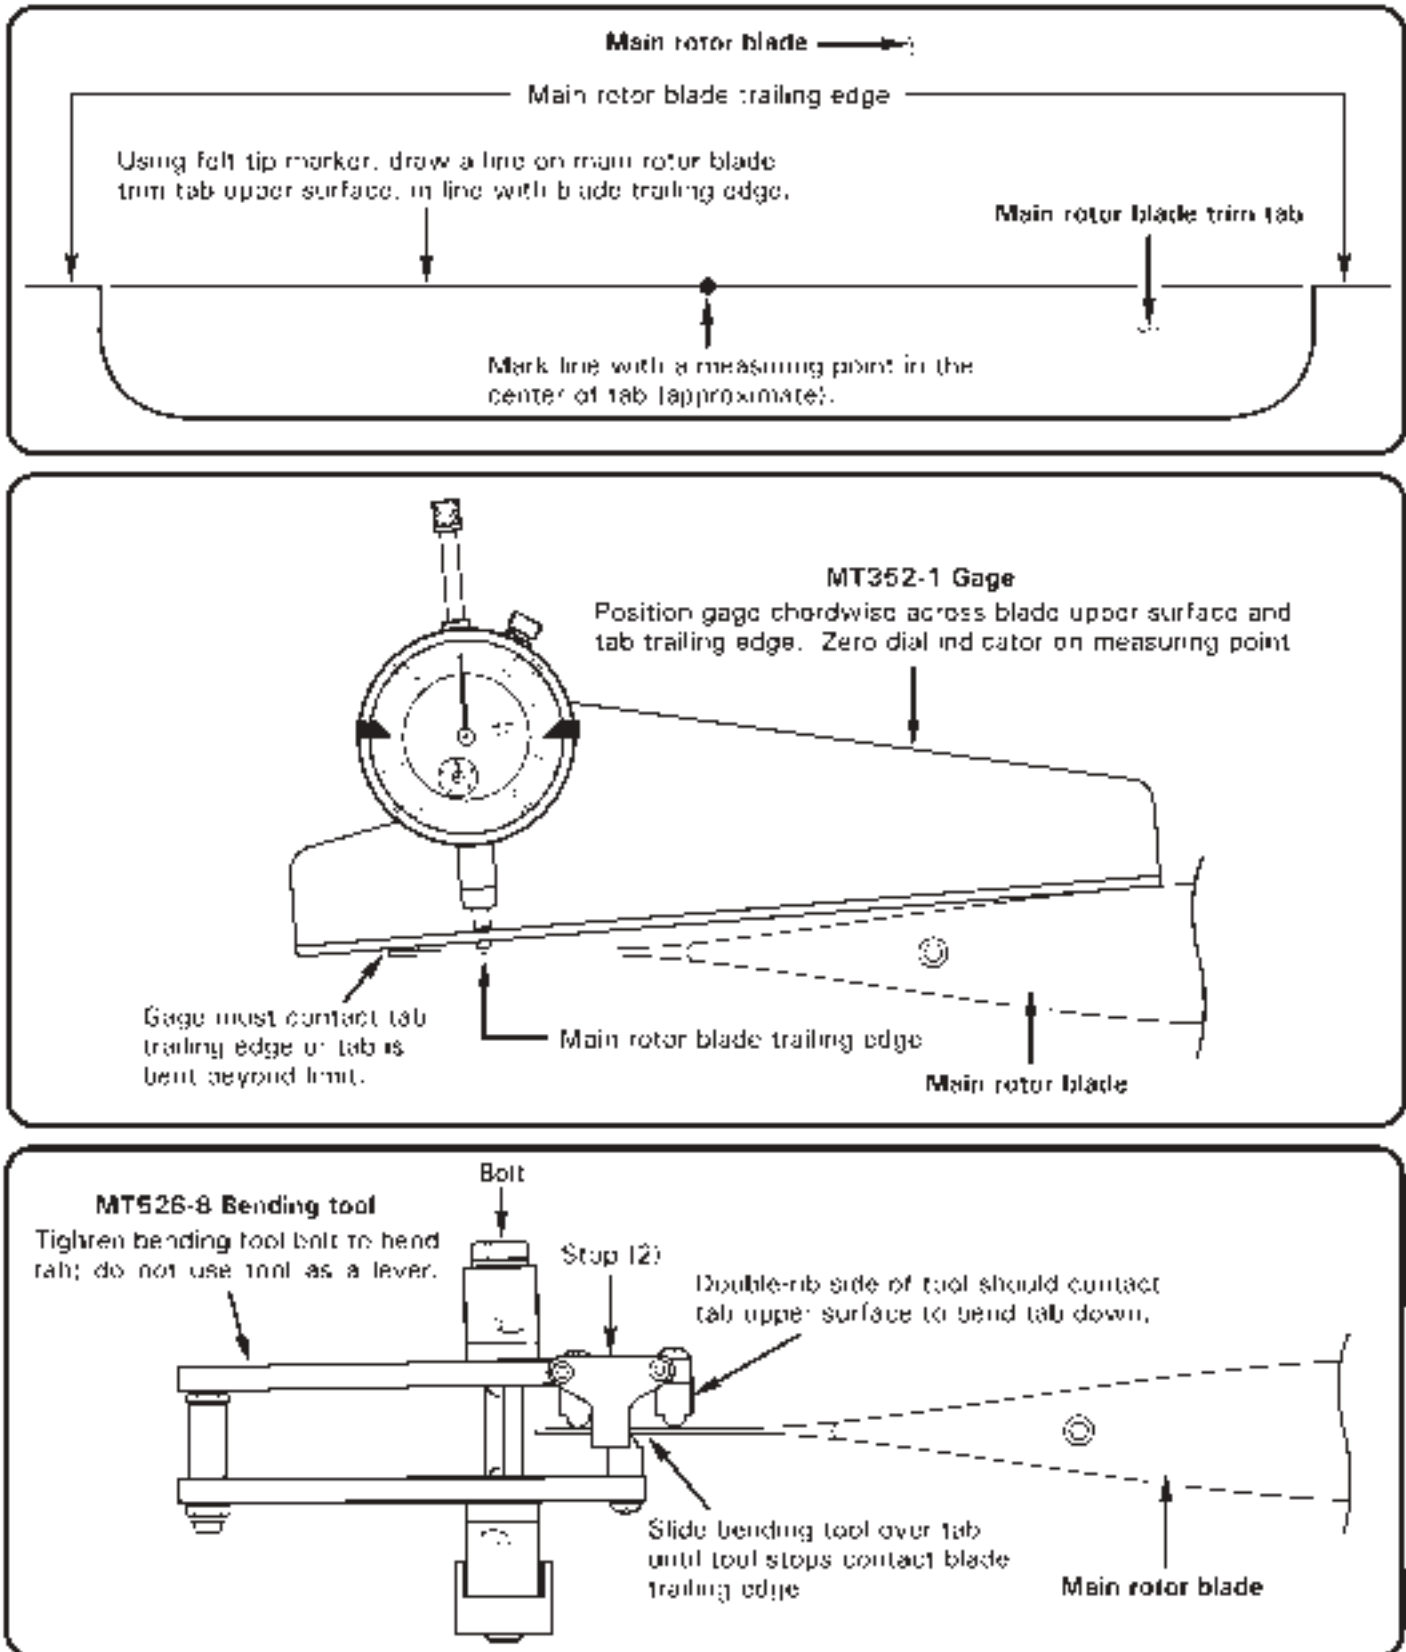

FIGURE 18-4 MAIN ROTOR BLADE TRIM TAB
1. Using felt tip marker, ink mark main rotor blade trim tab per Figure 18-4. Mark line with a measuring point in the center of the tab (approximate).
3. Position MT526-8 bending tool on tab per Figure 18-4. Slide tool completely over tab until tool stops contact blade trailing edge. Double-rib side of tool should contact tab upper surface to bend tab down. Double-rib side of tool should contact tab bottom surface to bend tab up.